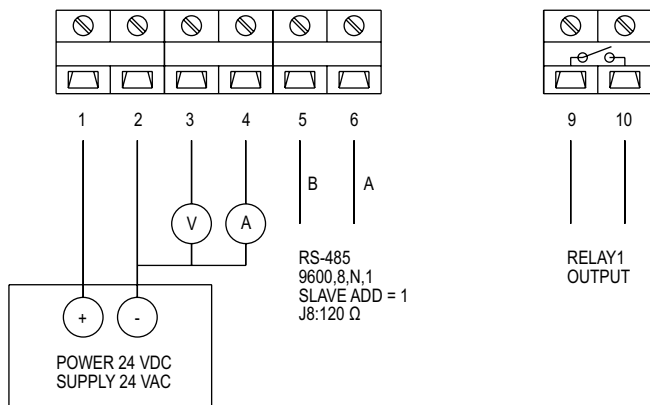

Figure 3: Communicating and analog terminal board
- Finish electrical connection according to the wiring diagram in Figure 3.
Shown in Figure 3 below is an example of a communication terminal block. Analog only models will not include terminals 5 and 6.